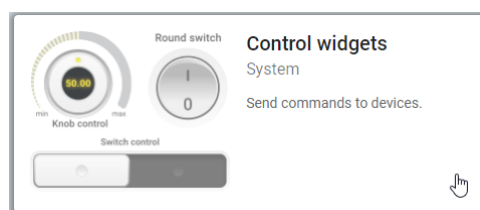

Figure 4.3: Control Widget
17. Control widgets are the widgets that can send RPC. So, select **control widgets** as shown in Figure 4.3.